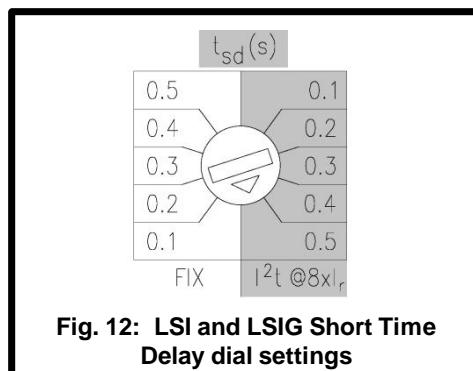

Fig. 12: LSI and LSIG Short Time Delay dial settings
Circuit breakers with the LSI and LSIG catalog number suffixes have an adjustment to set the Short Time Delay. Short Time Delay is either a fixed or I^2t time delay function. The I^2t function is based on a calibration point of 8 times the Continuous Current Setting (I_r). As shown in Fig. 12, the five (5) settings on the left select the fixed (FIX) Short Time Delay settings and the five (5) settings on the right select the I^2t Short Time Delay settings.